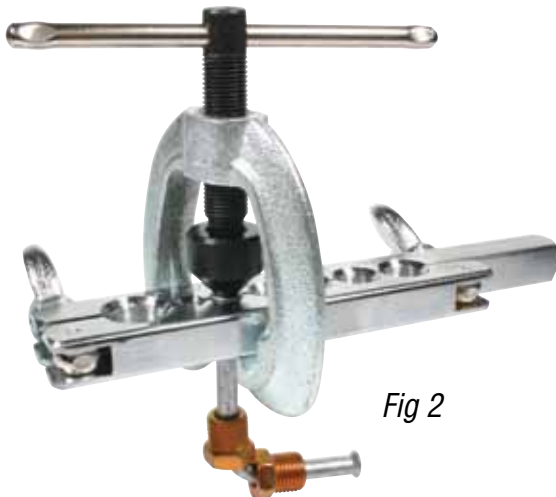

Fig 2
2. Place the flaring tool over the flaring block and position the cone into the tube as shown in Fig 2.